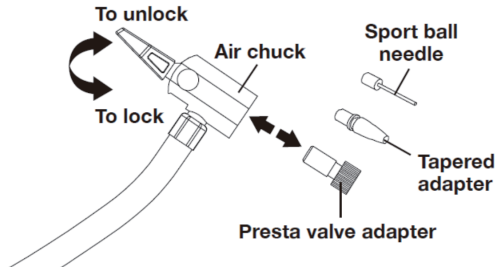

Fig. 6
Inflating with the Air Hose and Adapters (Fig.6)
1. Insert adapter into air chuck and push air clamp down until it locks into place (Fig. 6).
2. To remove, lift air chuck clamp and remove adapter from air chuck (Fig. 6).